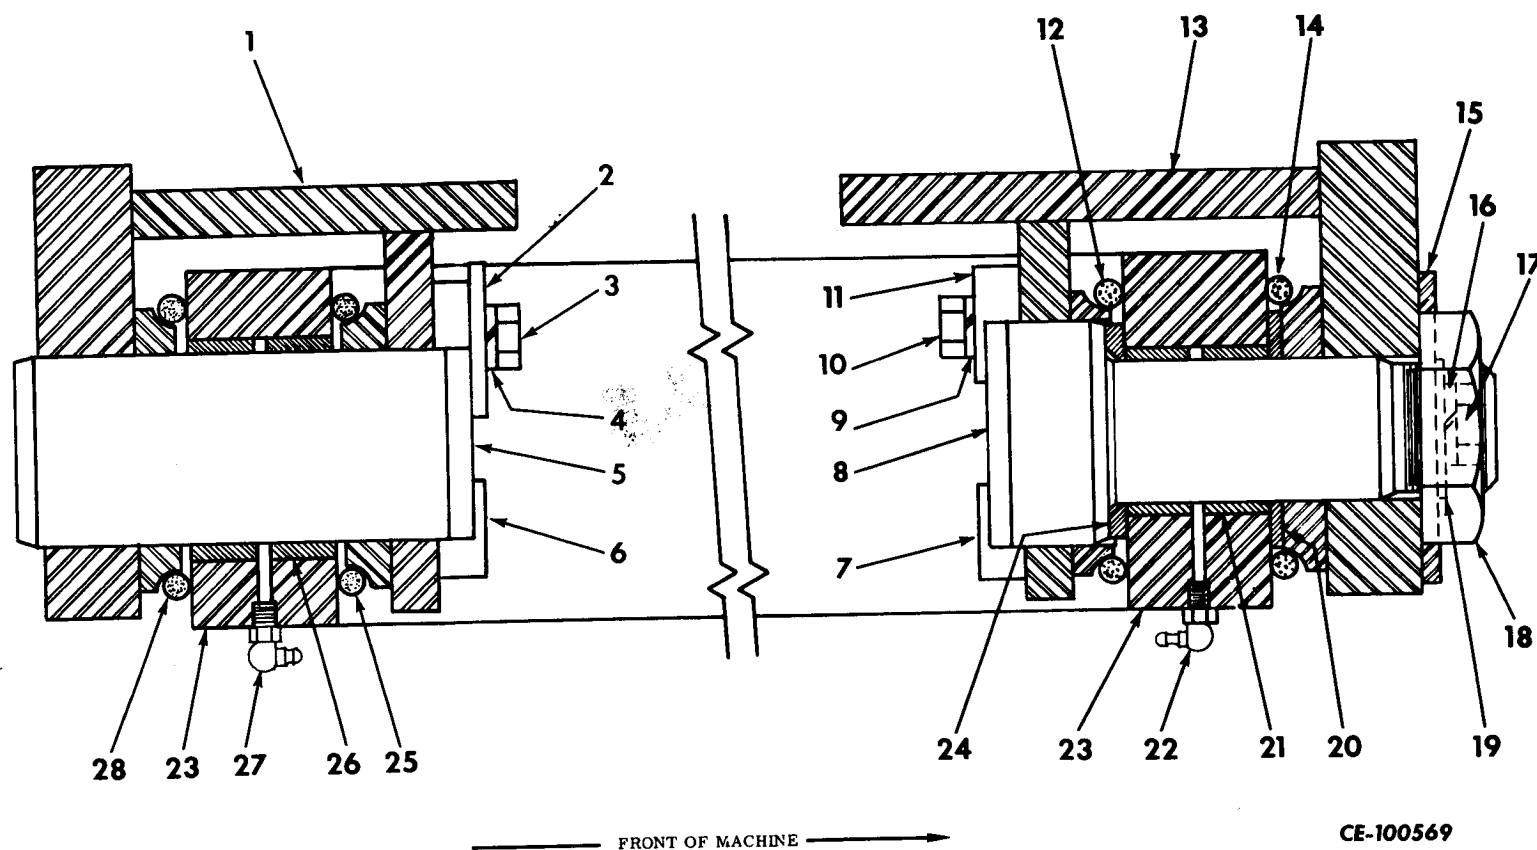

Figure 1-11
Bring pin lock plate (13, 23) into contact with block (7, Fig. 1-11).
Tighten nut (18, Fig. 1-11) with an air gun to torque shown in "Special Torques".
With retainer plate torqued down, lubricate pivot bushings (21, 26, Fig. 1-11).
Rotate cam (11, Fig. 1-11) clockwise to contact pin lock. Tighten cam bolt.
Be sure cam (11, Fig. 1-11) and pin lock bolt (3) on rear pivot are secured in a like manner.